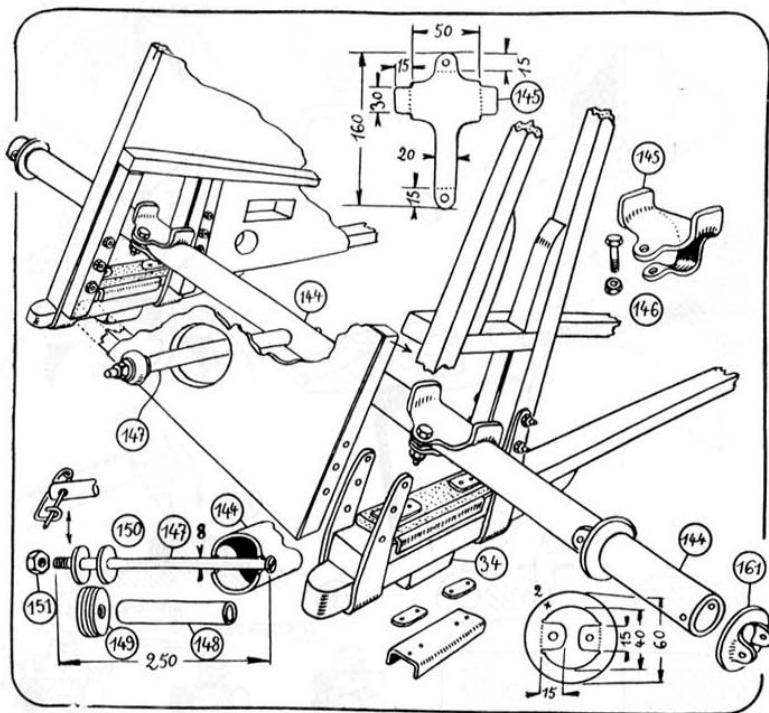

Figure 3.21: The axle and its placement
The axle is a 36×40 tube (144) (fig. 3.21) 1200mm long, filled with another reinforcing tube, 31×35 800mm long. This is 4mm thick in total, and weighs 4kg 300g. It is heavy — very heavy. But it's solid! The axle won't bend. You won't have to worry about beating your landing gear into a curve rolling over the clods. Do not repeat the author's mistakes — *only one tube is not enough.*
³I am unable to find this reference number on any drawing, but (161) is in Fig. 3.21, and includes layout details for the washer collar in question.